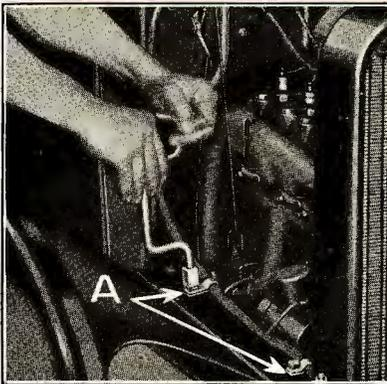

Fig. 10
- (a) Run off the two fender apron to frame bolt nuts and withdraw bolts and loom supports (See "A" Fig. 10).